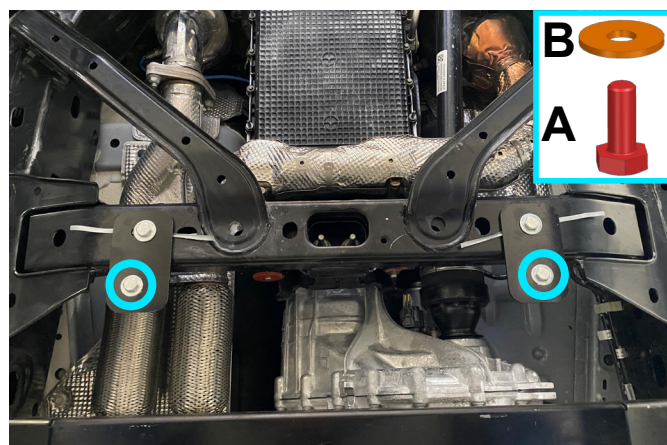

Fig. 9
7. Place bolts M10x30 (item A) and washers 10 (item B) to brackets (item C), as shown in fig.9.